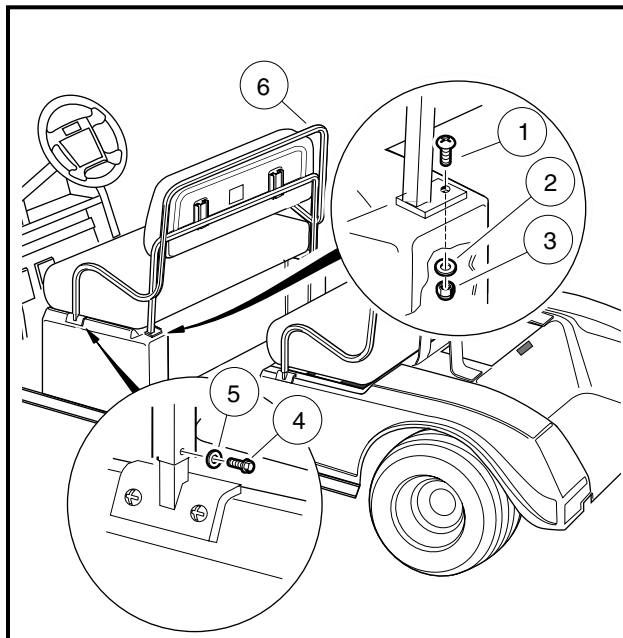

Figure 4-2 Center Body Seat Back Assembly
3. Remove screws (4) and washers (5) from the each side of the armrest/seat back assembly (6) (**Figure 4-2, Page 4-3**).
4. Remove the screws (1), lock nuts (3) and washers (2) from each side of the armrest/seat back assembly (6).
5. Remove the armrest/seat back assembly (6) (**Figure 4-2, Page 4-3**).
2. Tighten screws (4) to 9 ft-lb (12.2 N·m) and screws (1) to 18 in-lb (2.0 N·m) (**Figure 4-2, Page 4-3**).